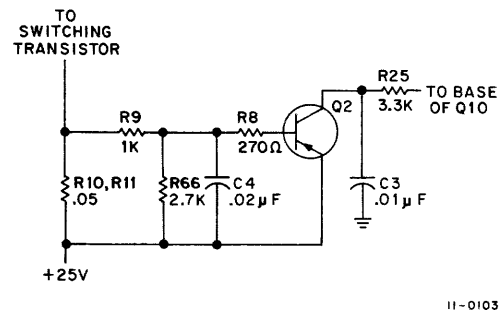

Figure 2-8 Overcurrent Protection Circuit
2.4.1.1 Overcurrent Protection – The overcurrent protection circuit schematic is shown in Figure 2-8. Transistor Q2 is usually not conducting because, under normal operating conditions, there is insufficient voltage developed across resistors R10 and R11 to forward-bias the transistor. However, if the current pulses through these resistors become too high (approximately 30A), the drop across resistor R66 becomes greater than 0.7V and base current flows in transistor Q2. When this occurs, capacitor C3 charges through Q2 to 25V immediately, and the base of Q10 is kept positive by this voltage. With Q10 conducting, the series-switching transistor is cut off, the current flow through resistors R10 and R11 stops, and transistor Q2 turns off. Capacitor C3 must then discharge through resistor R25, which process holds the switching transistor cut off for a period of time, thus providing some amount of fold-back in the current-limiting mode. Capacitor C4 provides a further delay and also prevents noise spikes from triggering transistor Q2.